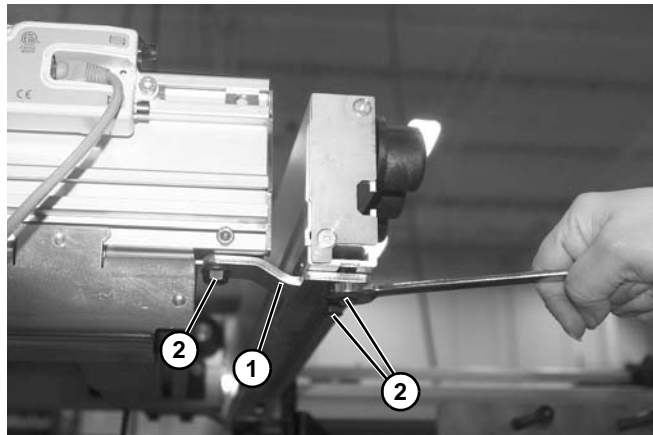

Figure 37
4. Install studs and/or spring nuts into conveyor channels. Install tie bracket (**Figure 37, item 1**) with three bolts (**Figure 37, item 2**).